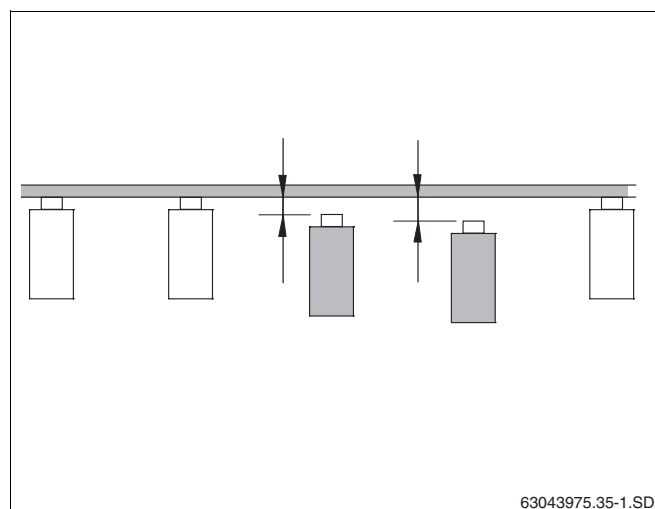

Fig. 12 Levelling the joists
- If the joists are at different levels, they must all be levelled (Fig. 12).